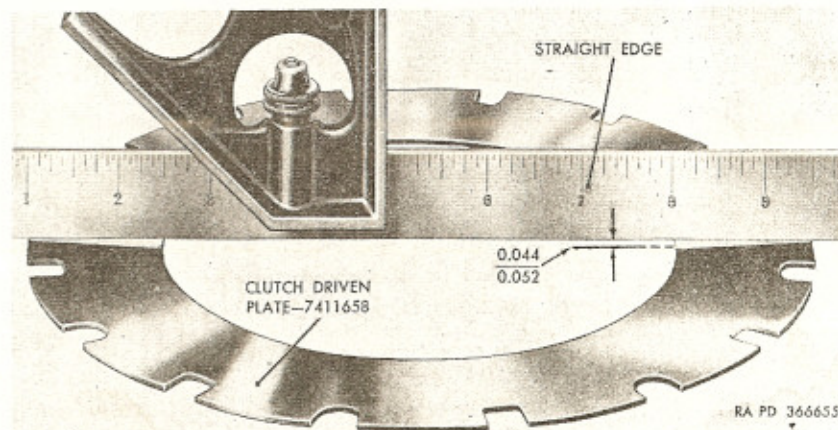

Figure 180. Checking reduction unit clutch driven plates (303M).
- (1) Inspect clutch drive plates (bronze) for nicks, burs, scratches, or scores.
- (2) Inspect teeth on inner diameter of drive plates for visible wear.
- (3) Check drive plates to make sure they are flat.
- (4) Spiral grooves on both sides of drive plates must run from inside diameter to outside diameter in clockwise direction, in respect to each face.
- (5) Remove nicks or burs on drive plates with crocus cloth. If any of the other conditions are found, replace drive plates.
- (6) Inspect clutch driven plates (steel) for nicks, burs, scratches, or scores. Remove burs with crocus cloth.
- (7) Check square notches in driven plates for wear or distortion.
- (8) Driven plates (fig. 180) must be concave.
- (9) If driven plates are scratched, scored, distorted, or have worn notches, replace with new parts.
h. Direct Clutch Piston Release Spring Pins (M). Inspect release spring pins for distortion. Replace pins if distorted.
j. Output Shaft Bearing Spacer (T).